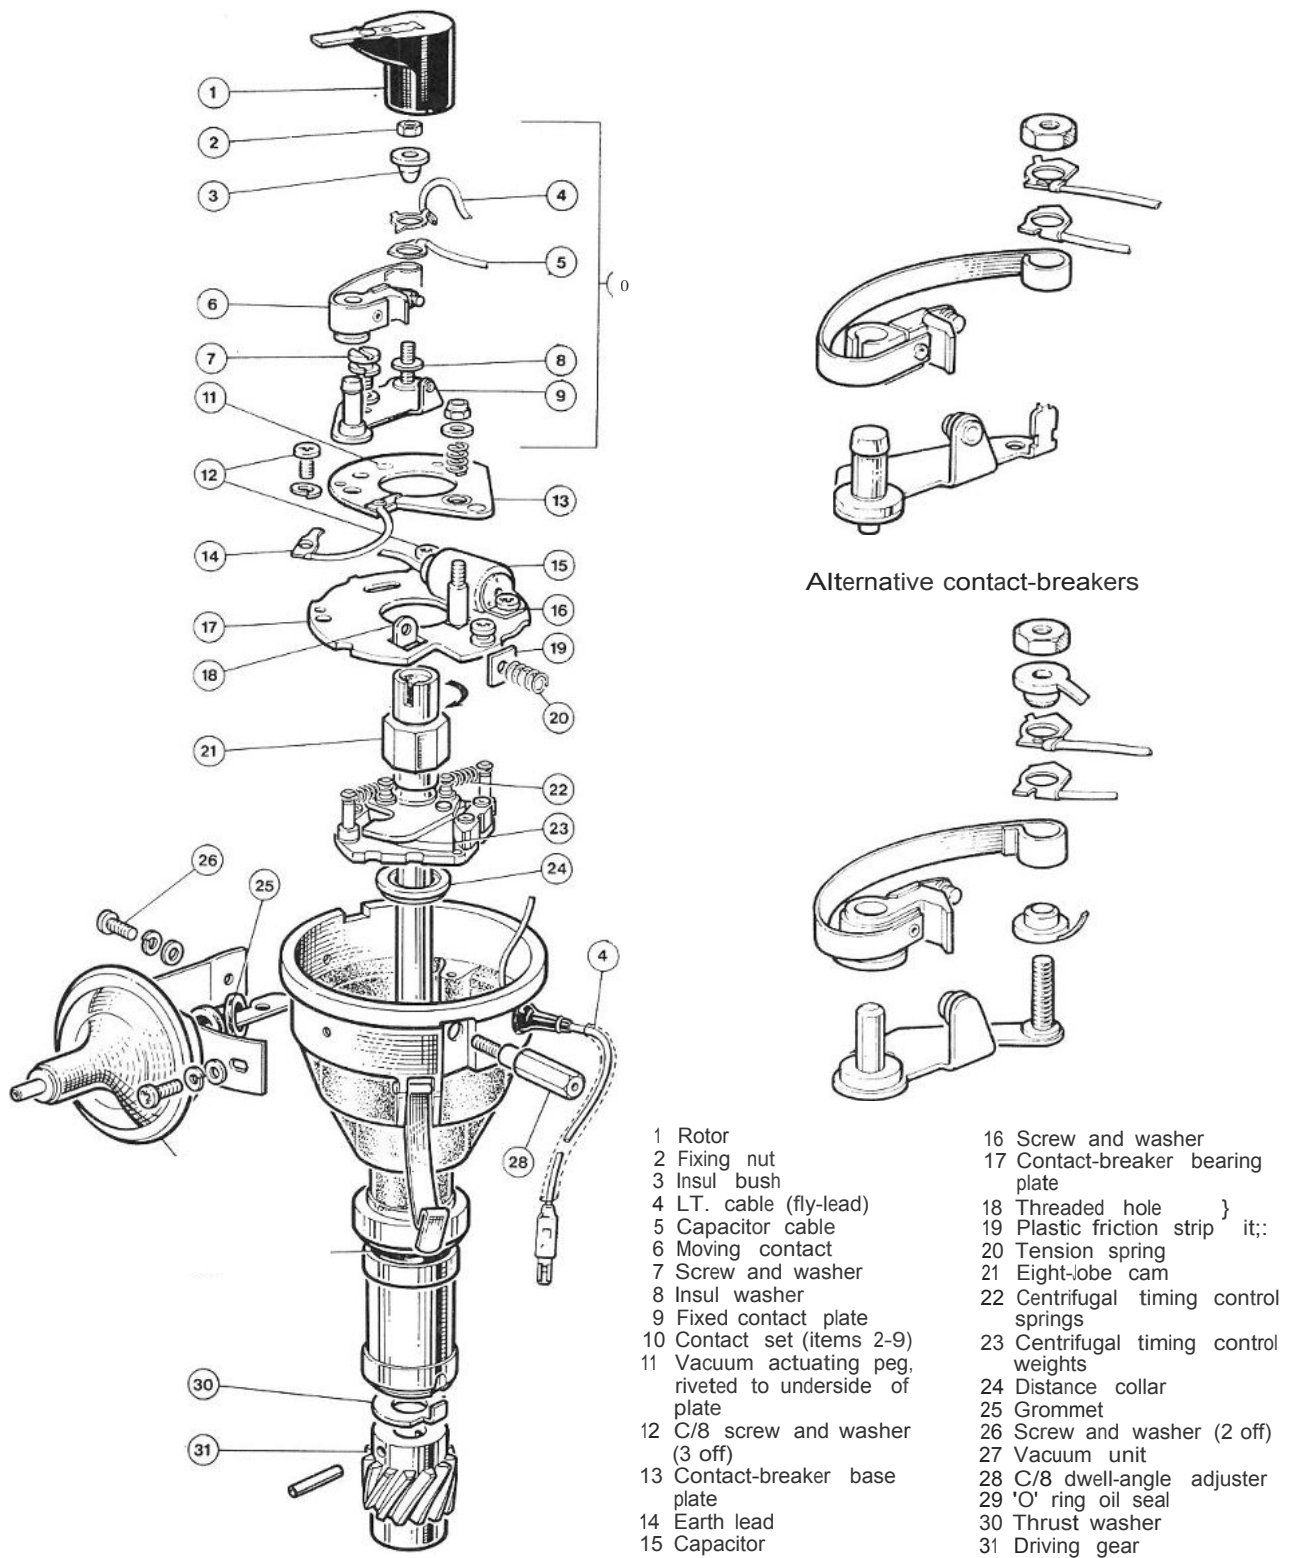

Fig. 1 Typical model 3508 distributor with offset pivot contact-breaker (anti-clock rotation, viewed from drive-end, and advance vacuum unit)
Single contact-breaker distributors incorporate a dwell-angle adjuster screw (Figs. 1, 2 and 3, item 28), which enables the dwell-angle (closed-contact period) to be set accurately, while the engine is running, and so obtain the optimum performance from the distributor.